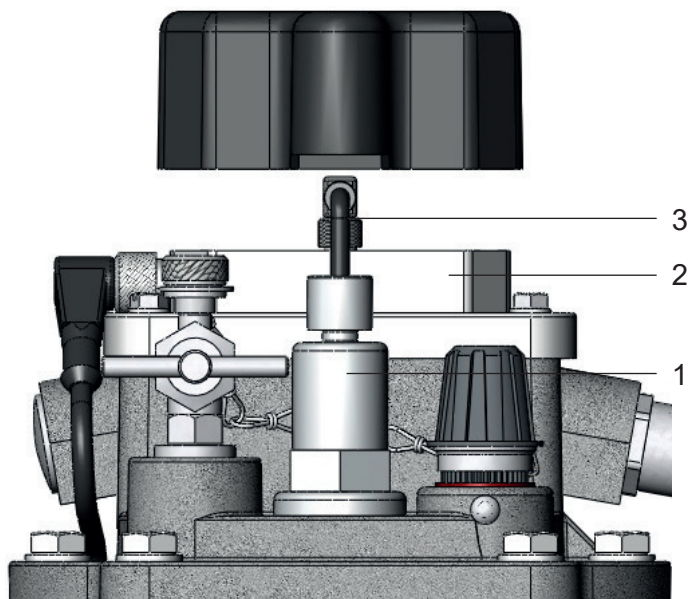

Figure 5 - Cover with dust hood removed
- Disconnect the sensor (Fig. 5/ N° 1) from the amplifier unit (Fig. 5/ N° 2) by pulling out the M8 line protection plug (LS plug) (Fig. 5/ N° 3).
Hold the LS plug (Fig. 5/ N° 3) by the serrated handpiece and pull out without twisting. The plug may be damaged when twisting it.